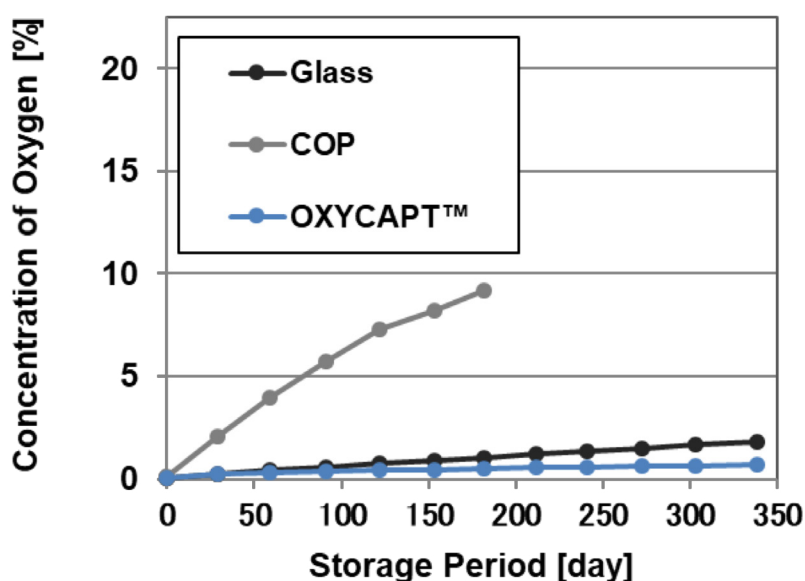

Figure 2: Concentration of oxygen over time inside vials of glass, COP and OXYCAPT™ originally filled with nitrogen.
A study showed that the oxygen barrier quality of OXYCAPT™ is superior to that of glass and far better than COP. The air in vials of glass, COP and OXYCAPT™ was completely replaced with nitrogen and were then stored at 25°C and 60% relative humidity (RH). The oxygen concentration in the COP vial immediately rose, because oxygen transmits through the wall of the vial and the surface of the rubber stopper. The glass vial with a perfect barrier property also rose up gradually, as oxygen transmits through the rubber stopper. On the other hand, OXYCAPT™ kept very low oxygen concentration for a long time, since OXYCAPT™ gradually absorbs the oxygen that permeates through the rubber stopper, as well as the vial itself (Figure 2).